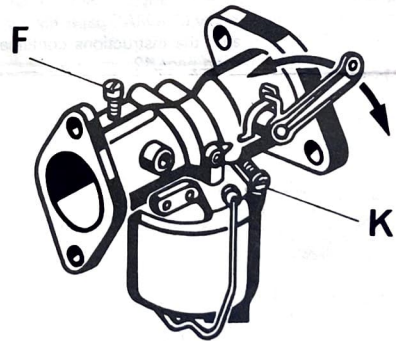

Fig. 7
- At idling speed, the correct fuel-air ratio is obtained by adjustment of the idling mixture screw (K, Fig. 7). The idling mixture screw has to be closed carefully, then unscrewed by 1 1/4 turn (basic adjustment).
- After the engine is warmed up at its normal operating temperature, set the idling speed in accordance with the specifications (about 1 000 r.p.m.) by adjusting the throttle stop screw (F, Fig. 7). Check the engine speed with a revolution counter.
- The idling mixture screw (K, Fig. 7) has to be screwed in resp. out until the engine speed does not increase any more and a smooth operation is obtained.
- The required idling speed can be set with the throttle stop screw (F, Fig. 7). The engine speed should accelerate frankly without « hunting ». In the opposite, the idling mixture screw (K, Fig. 7) has usually to be adjusted for a richer mixture but sometimes it may also be necessary to lean the mixture.